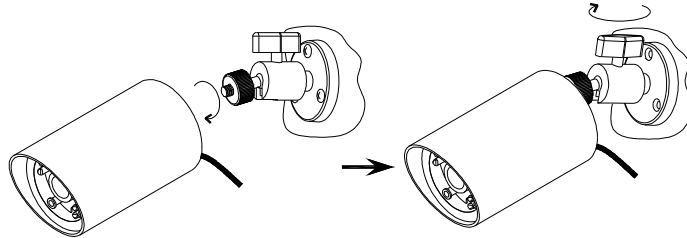

Figure 2
- (2) Screw the mounting bracket into the camera mounting post; then adjust the camera to approximate location and tighten the camera wingnut (as shown on Figure 2).